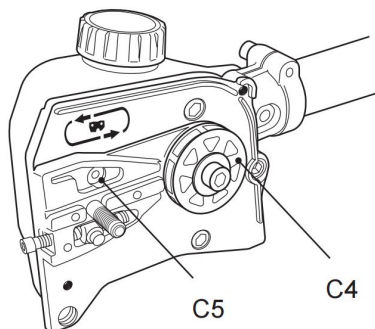

Fig. 70
2. Check the oiling port (C5) for clogging and clean if necessary to ensure proper lubrication of the guide bar and saw chain during operation. Use a soft wire small enough to insert into the oil discharge hole (Fig. 70).